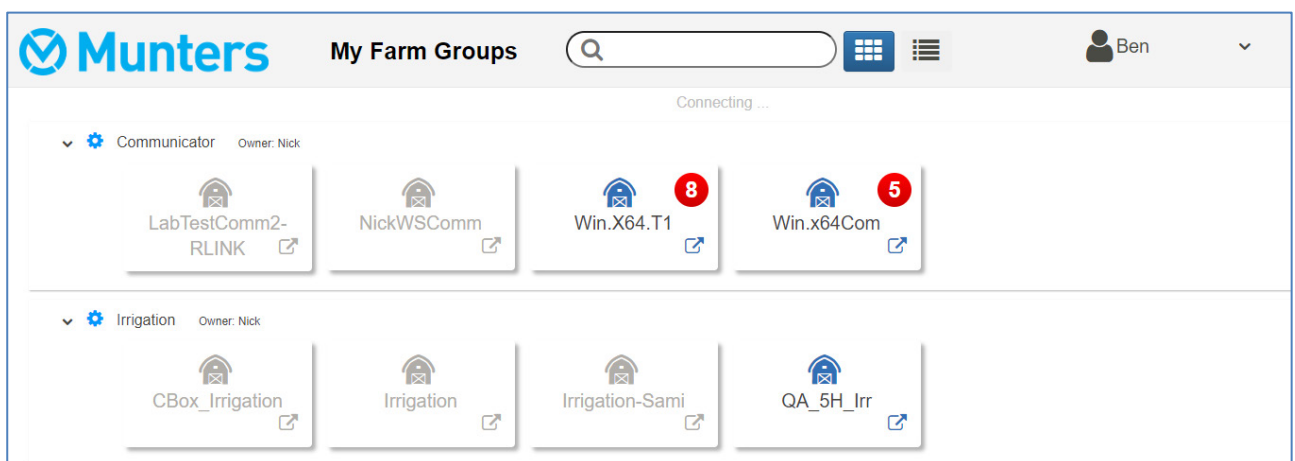
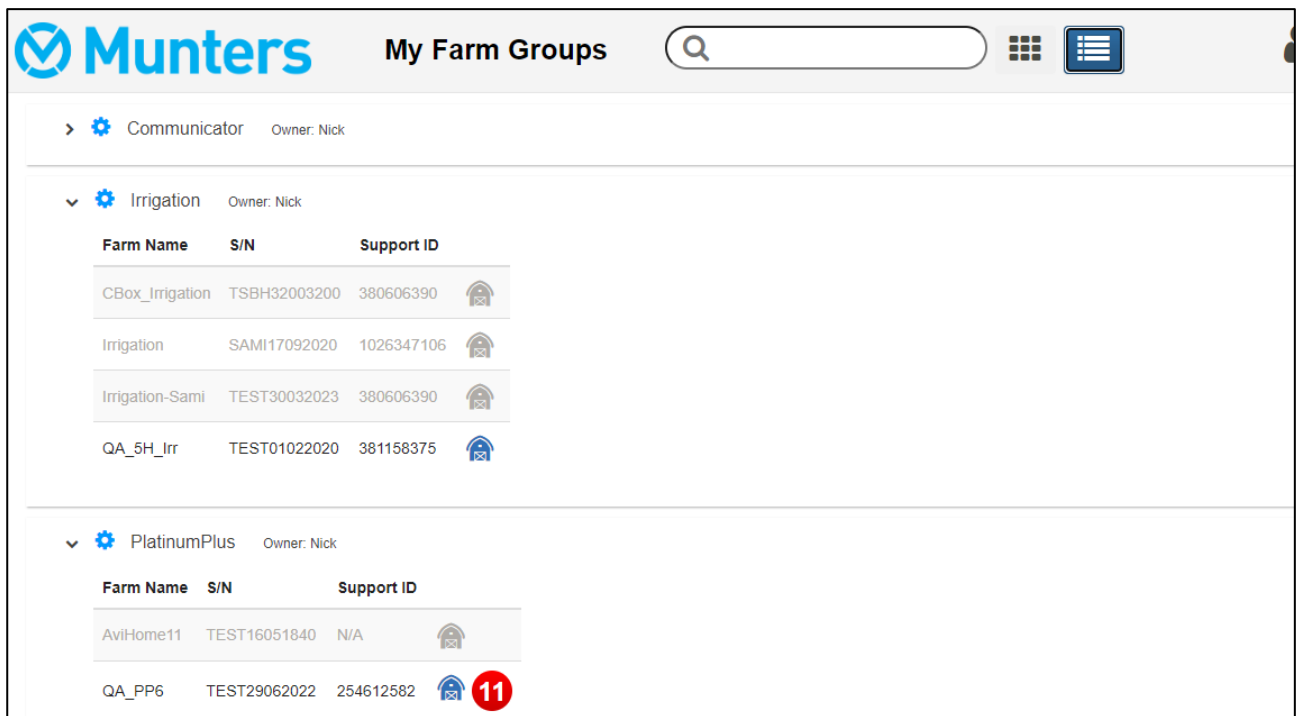

Figure 44: Grid View
Figure 45: List View
- Farms can be displayed in a grid (Figure 44, click ) or in a list (Figure 45, click )